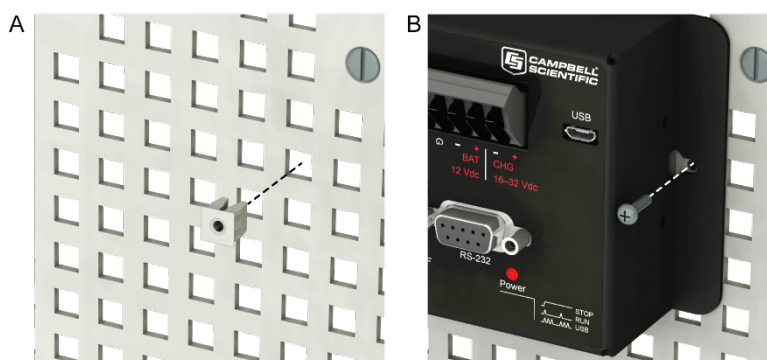

FIGURE 7-1. Mounting components inside the enclosure
2. Connect sensors and peripherals to the datalogger as shown in the corresponding manuals. FIGURE 7-1 also shows how to first insert the grommets and secure the component.